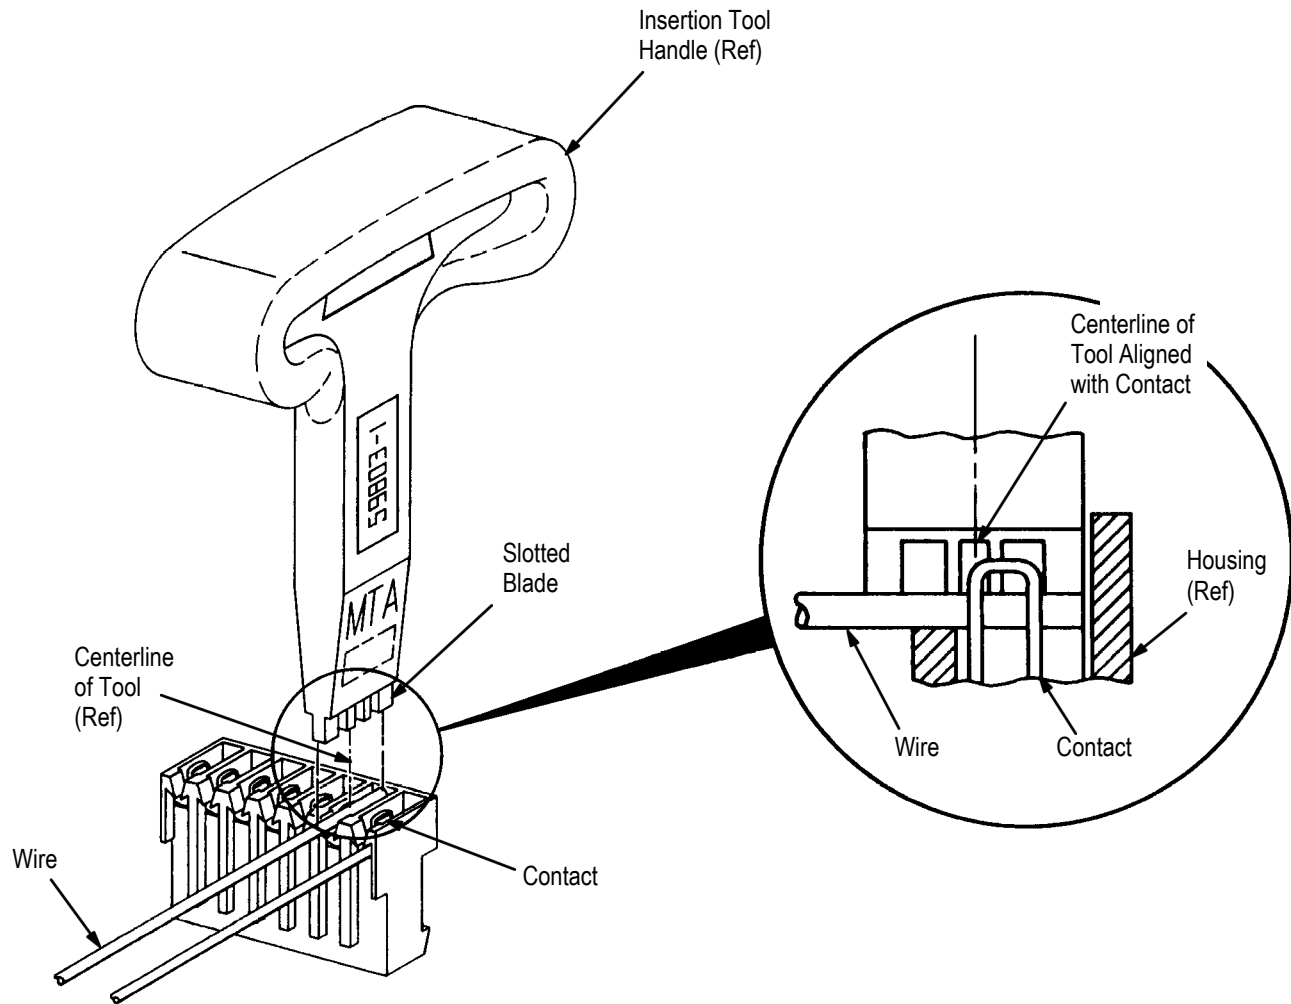

Figure 2
### 3. INSERTION PROCEDURES (Figure 2)
3. Place appropriate tool on wire over contact so that the centerline of the tool matches the contact. The tool must be positioned as shown in Figure 2.